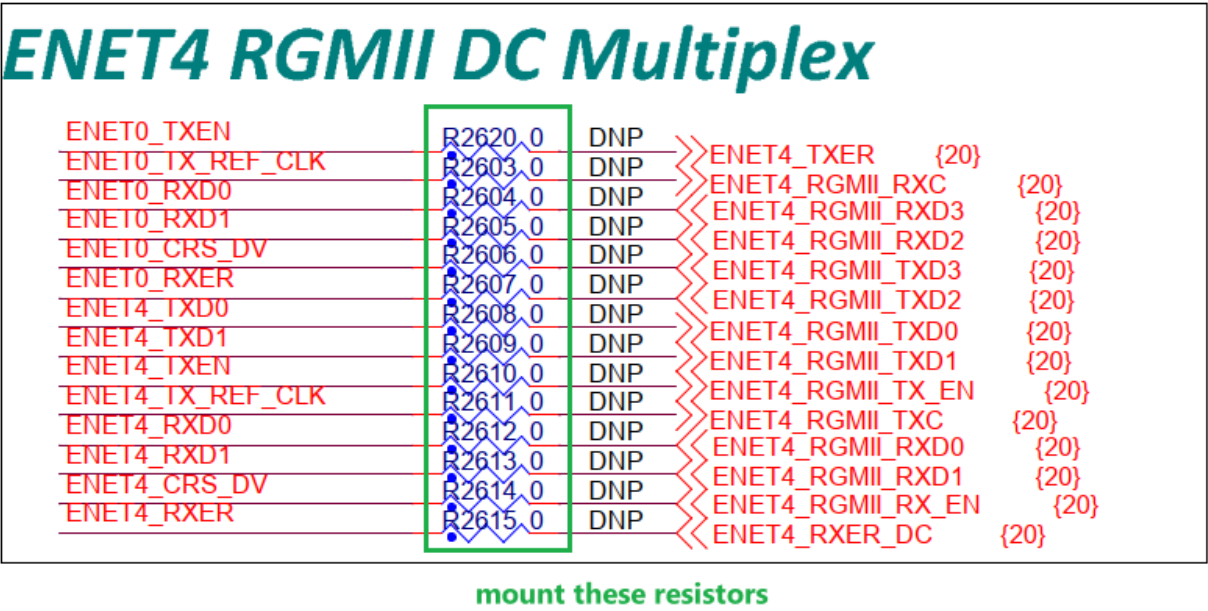

Figure 30. Step 3
3. Populate R2603 to R2615 and R2620 with 0 Ω resistors as shown in Figure 30.